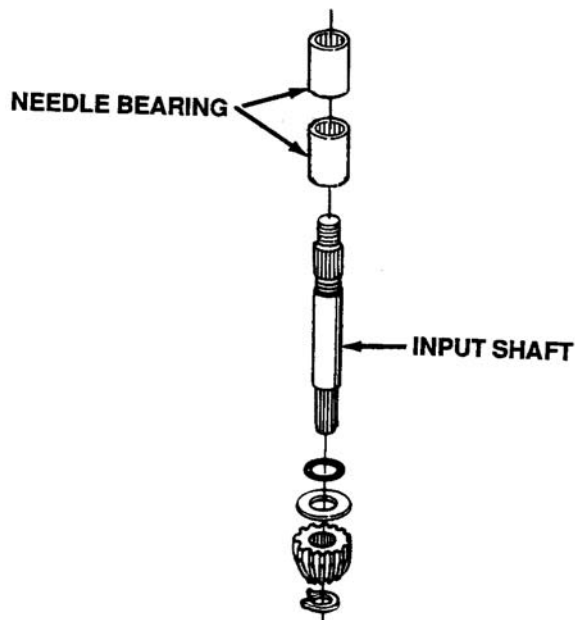

Figure 6-6. Splined Input Shaft
7. 1991 model transaxles ONLY. Prior to 1991, a keyed input shaft was used. This has been changed to a splined input shaft for 1991 production. The input shafts are NOT interchangeable unless the input shaft pulley is changed. See Figure 6-6.